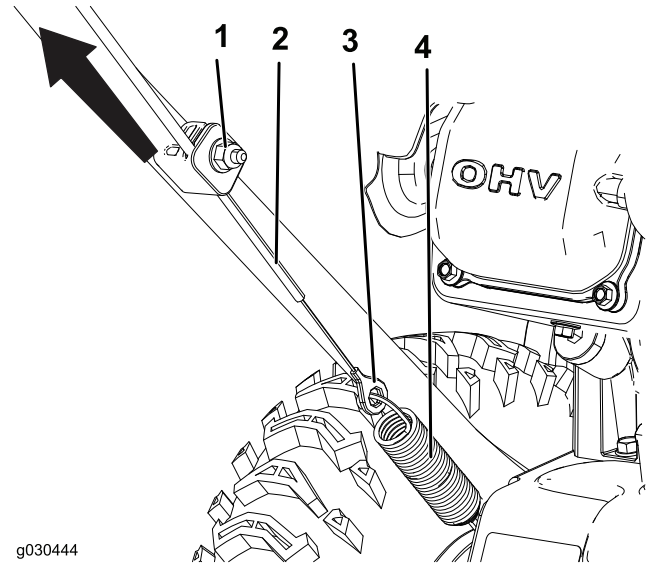

Figure 25
1. Loosen the nut on the lower cable clamp, but do not remove it (Figure 25).
2. Pull the cable up to remove some slack (Figure 25).
3. Hold the cable in place and tighten the nut (Figure 25).